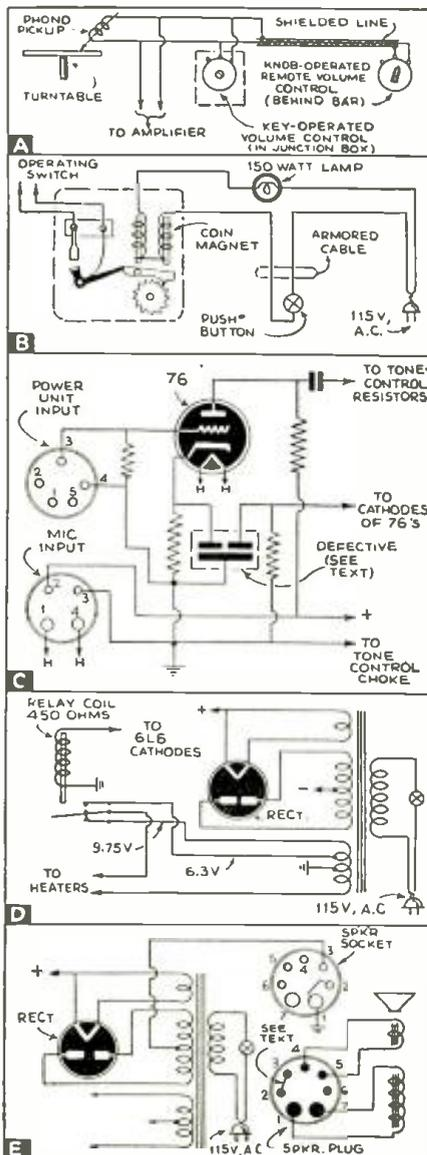

Fig. 1
Reference was made earlier to the half-line pulses maintained during the vertical synchronizing. It is to these we can attribute a very common trouble in television receivers. Namely, the tendency for the top part of the image to be horizontally displaced, the subject matter therein appearing to lean sideways (see Fig. 1). In some cases this horizontal displacement will not be maintained stably, the top edge of the image fluttering in an irritating manner.
Fig. 1. New circuit features of (A) Philco Models 39-117, 39-118, 39-119; (B) Stromberg-Carlson Models 340 and 341; (C) General Electric Models H-73, H-77, H-78, H-79.